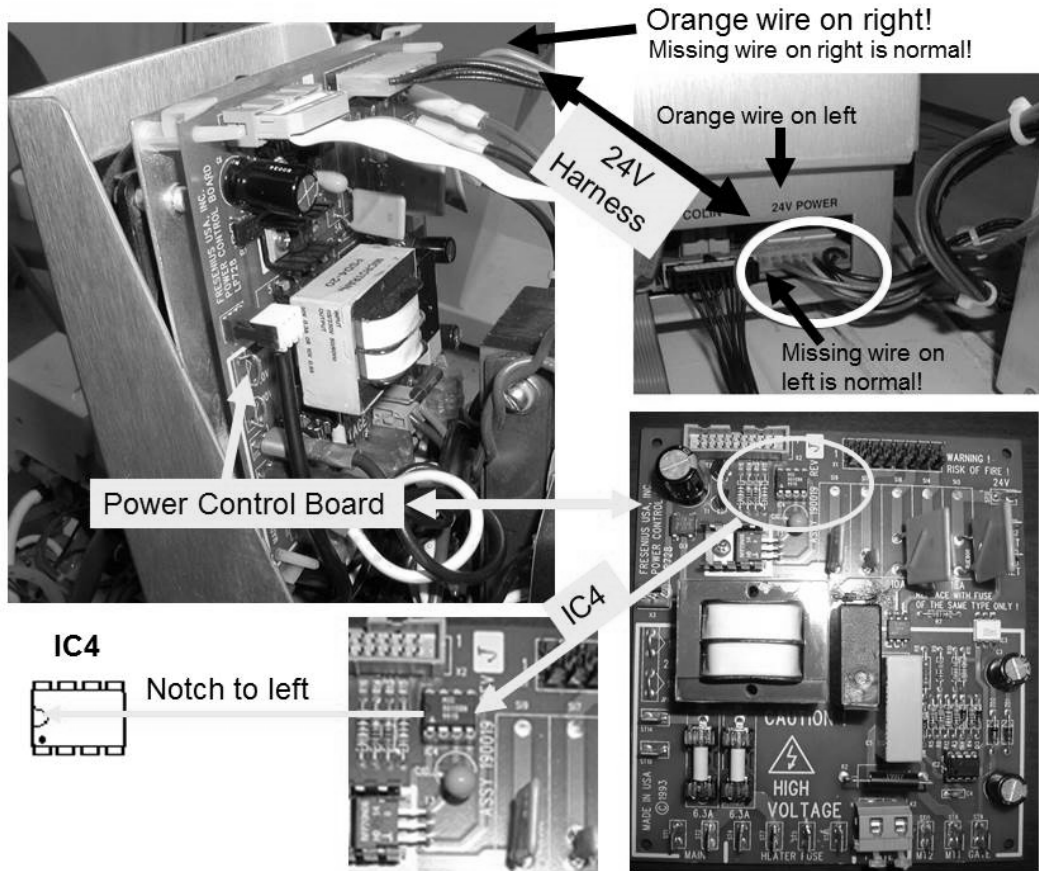

Figure 109 – Power Control Board / 24V Power Harness / IC4
d) IC4 (see Figure 109 above) is socketed and can be removed without desoldering! **CAUTION!** Being careful NOT to install it upside down swap in a known good IC4 chip BEFORE continuing to procedure number WD- 1.0.4 (page 574).
* To LOCATE the 24V Harness refer to Figure 109 (page 573)